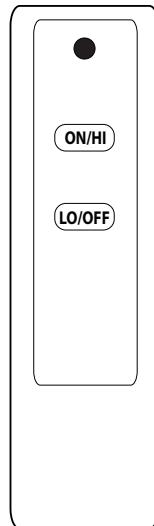

Fig. 27-1 Remote transmitter detail
- Locate the remote transmitter and press and hold the **ON/HI** button (see Fig. 27-1). The ignition sequence will begin.